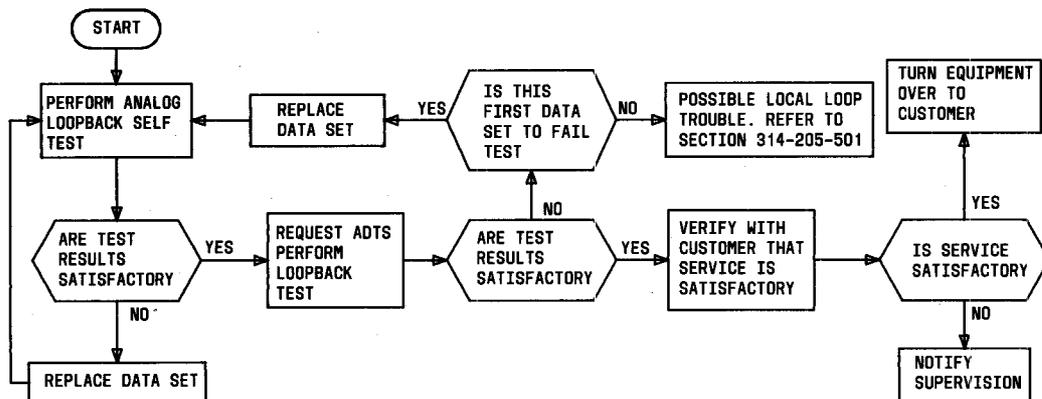

Fig. 1—Installation Test Sequence
2.01 This part provides the sequence in which tests are to be performed following installation of the data set. This test sequence (Fig. 1) provides a method of verifying that the installation is satisfactory. Before proceeding with the tests, verify that the local loop meets the requirements specified in Section 314-205-501.